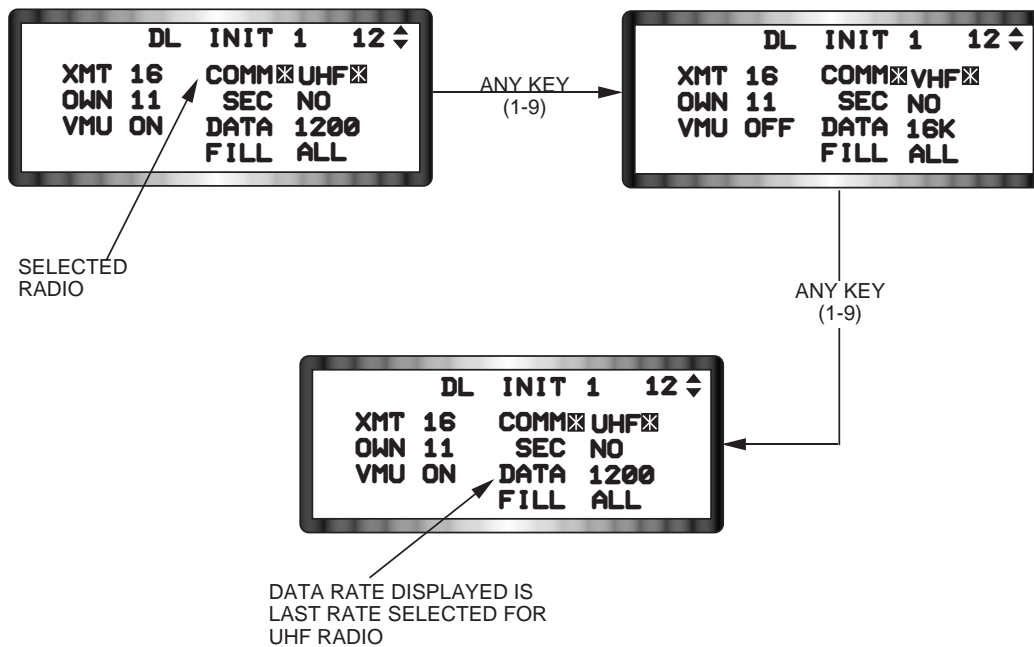

Figure 1-64 Radio Selection
Radio Selection. The COMM field on the DL INIT 1 page is used by the pilot to select the radio for transmitting data link information. Pressing any key 1 through 9 with the asterisks around the COMM entry field will rotary the selected radio between UHF and VHF (See Figure 1-64). Data rate and radio type are stored